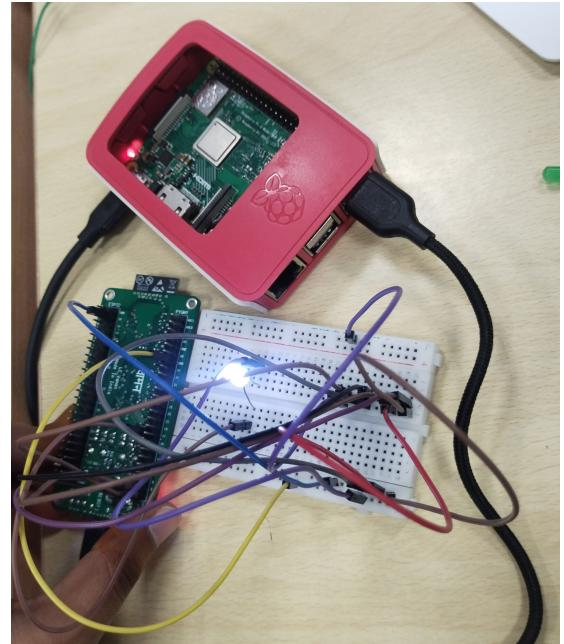

Fig. 5.
- 1) Download the codes given in the link below and execute them to see the output as shown in figure 5.